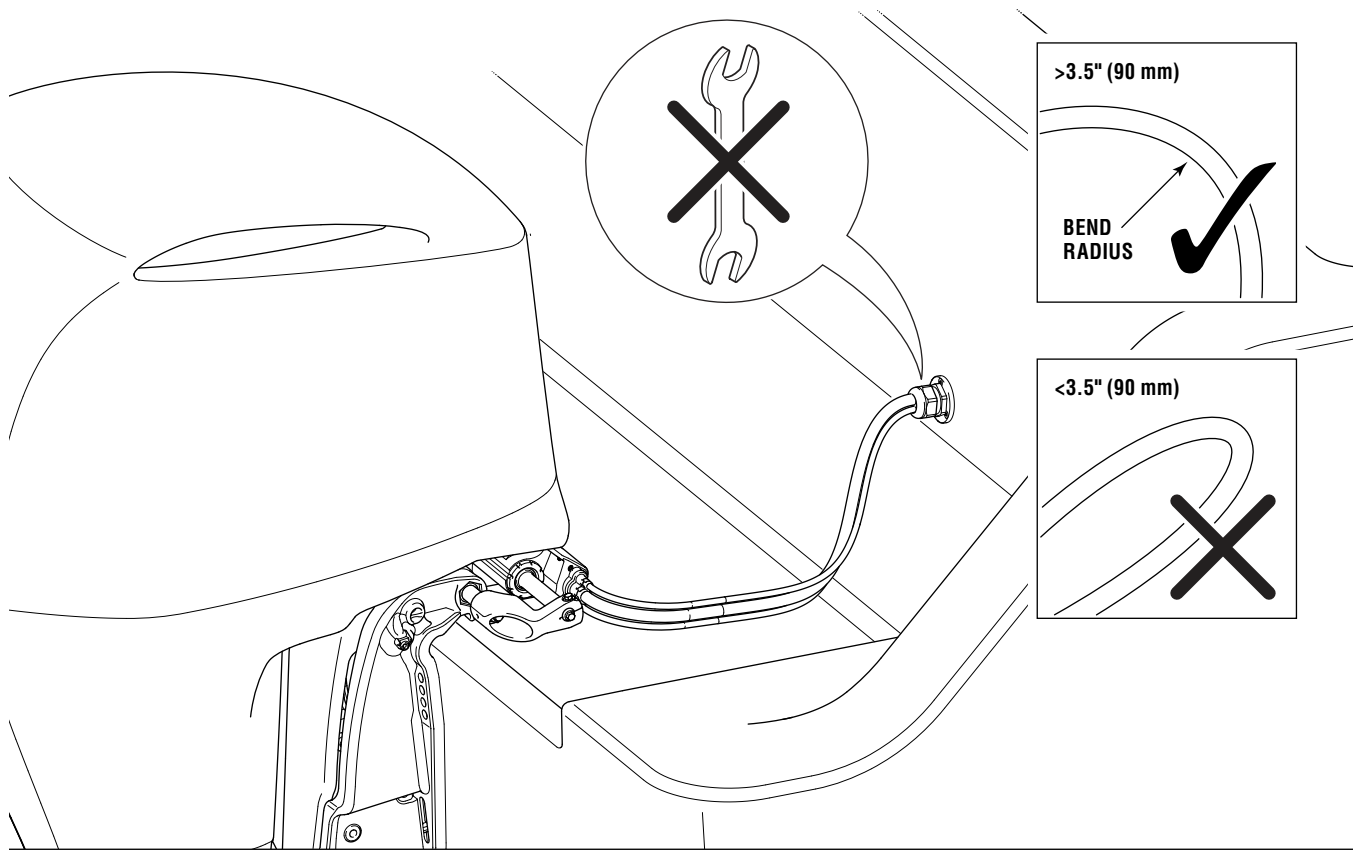

Figure 5-8. Gradual loop.
3. Adjust the amount of harness pulled through the bulkhead until there is enough slack for the actuator to move through its full stroke, as well as trim and tilt, without restriction or interference. Ensure the harness bend radius is not less than 3.5" (90mm) at any point in the actuator's steering range, or in the trim/tilt range. You should end up with a nice loop from bulkhead fitting to the actuator as shown in figure 5-8.